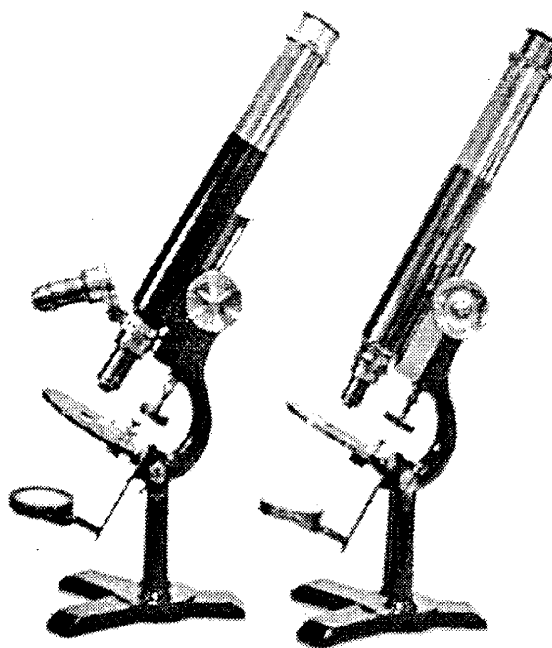

Fig 3. Stealth Tighe (extended) and Tighe No. 3
How could this have happened? The instrument is basically a stock Tighe No.3 (Fig 3). with the following exceptions: (1) No.3's were not supplied (at least by the Tighes) with a rotating nosepiece; (2) it has Leitz objectives, while all Tighe lenses were probably supplied (unsigned) by Gundlach (at least on stands signed and sold by the Tighes), (3) it has a flat B&L ocular, instead of the trademark Gundlach "top hat" optic, (4) the draw tube has a different "collar" at the top, and is fitted with a custom (homemade?) aluminum adapter for the (narrower) ocular, (5) the objectives,